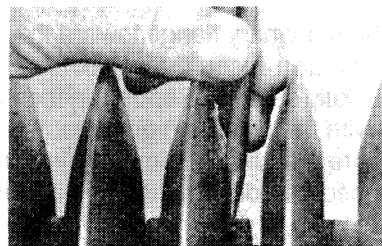
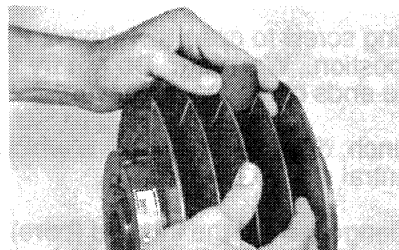

Fig. 3
Fig. 7
4. Using a long punch, drive out the roll pins which hold the fixed flange to the central sleeve. See Fig. 3.
8. Slide the stationary flange toward the inboard (bore) end and insert the positioning key, ensuring that it is fully seated. Reposition the stationary flange with the aid of a groove gauge, as in Fig. 7. Make sure that the roll pin holes in flange & sleeve are aligned, but **do not** insert pins. See Fig. 3.